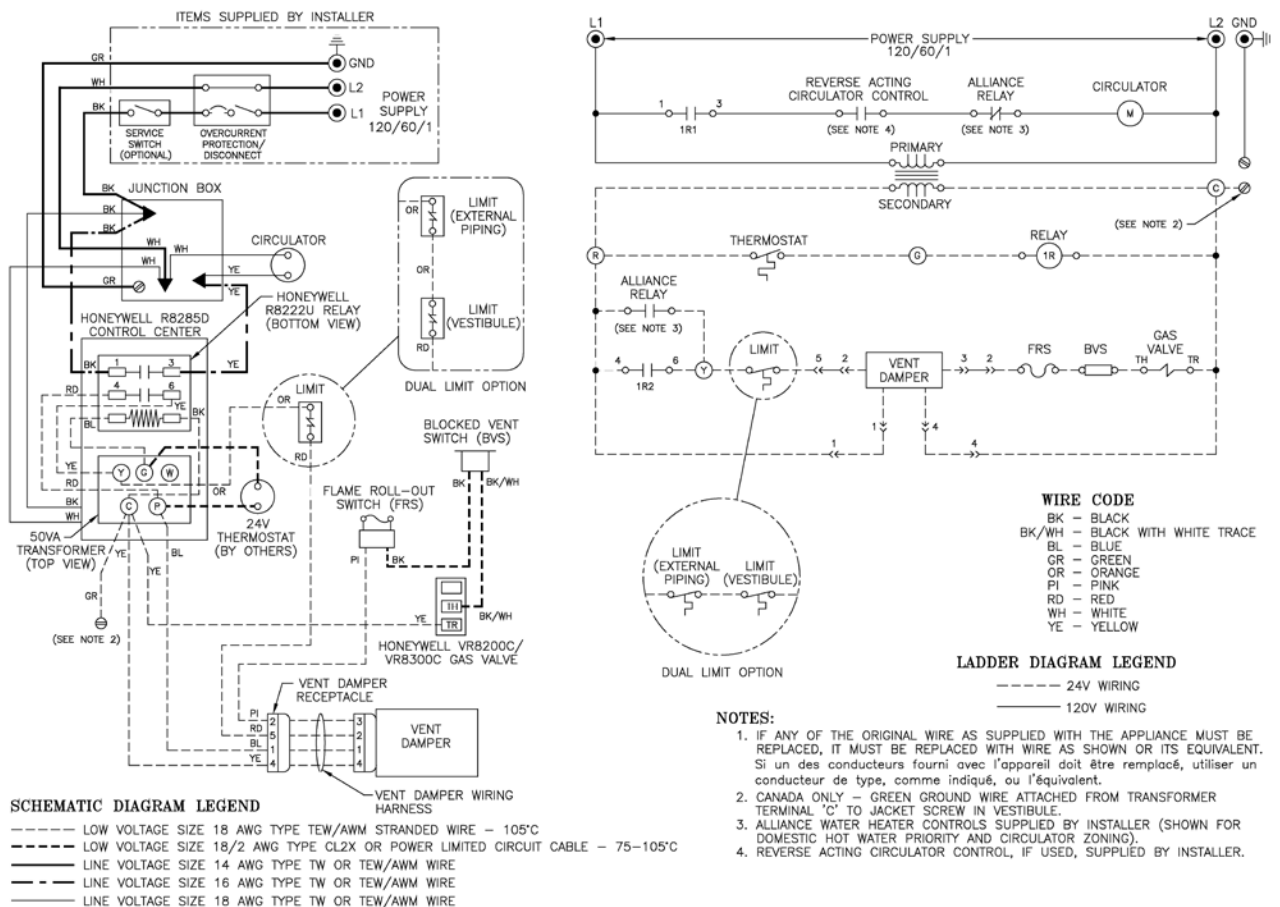

Figure 11: Wiring Diagram, 24 Volt Standing Pilot and Intermittent Circulation
- 16. INSTALL ELECTRIC WIRING** in accordance with National Electric Code or the Canadian Electrical Code and local regulations. See Figures 11 through 16 for applicable wiring diagram. A separate electrical circuit must be run from the main electrical service with an over-current device/disconnect in the circuit. A service switch is recommended and may be required by some local jurisdictions. When installed, the boiler must be electrically grounded in accordance with local codes or, in the absence of local codes, with the National Electrical Code, ANSI/NFPA 70, and/or the CSA C22.1 Electrical Code, if an external electrical source is utilized.